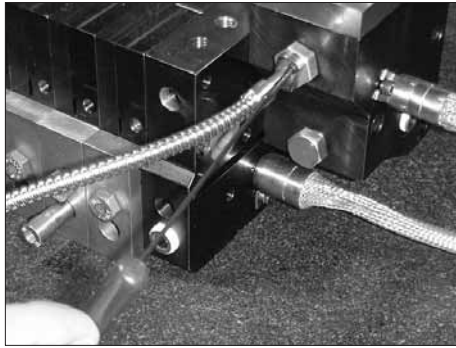

Figure 7-111 Installing a miniature pressure transducer (filter block location shown)
3. See Figure 7-111. Install the pressure transducer in the adapter fitting and use a 2.5-mm hex wrench to secure it with the mounting screws.